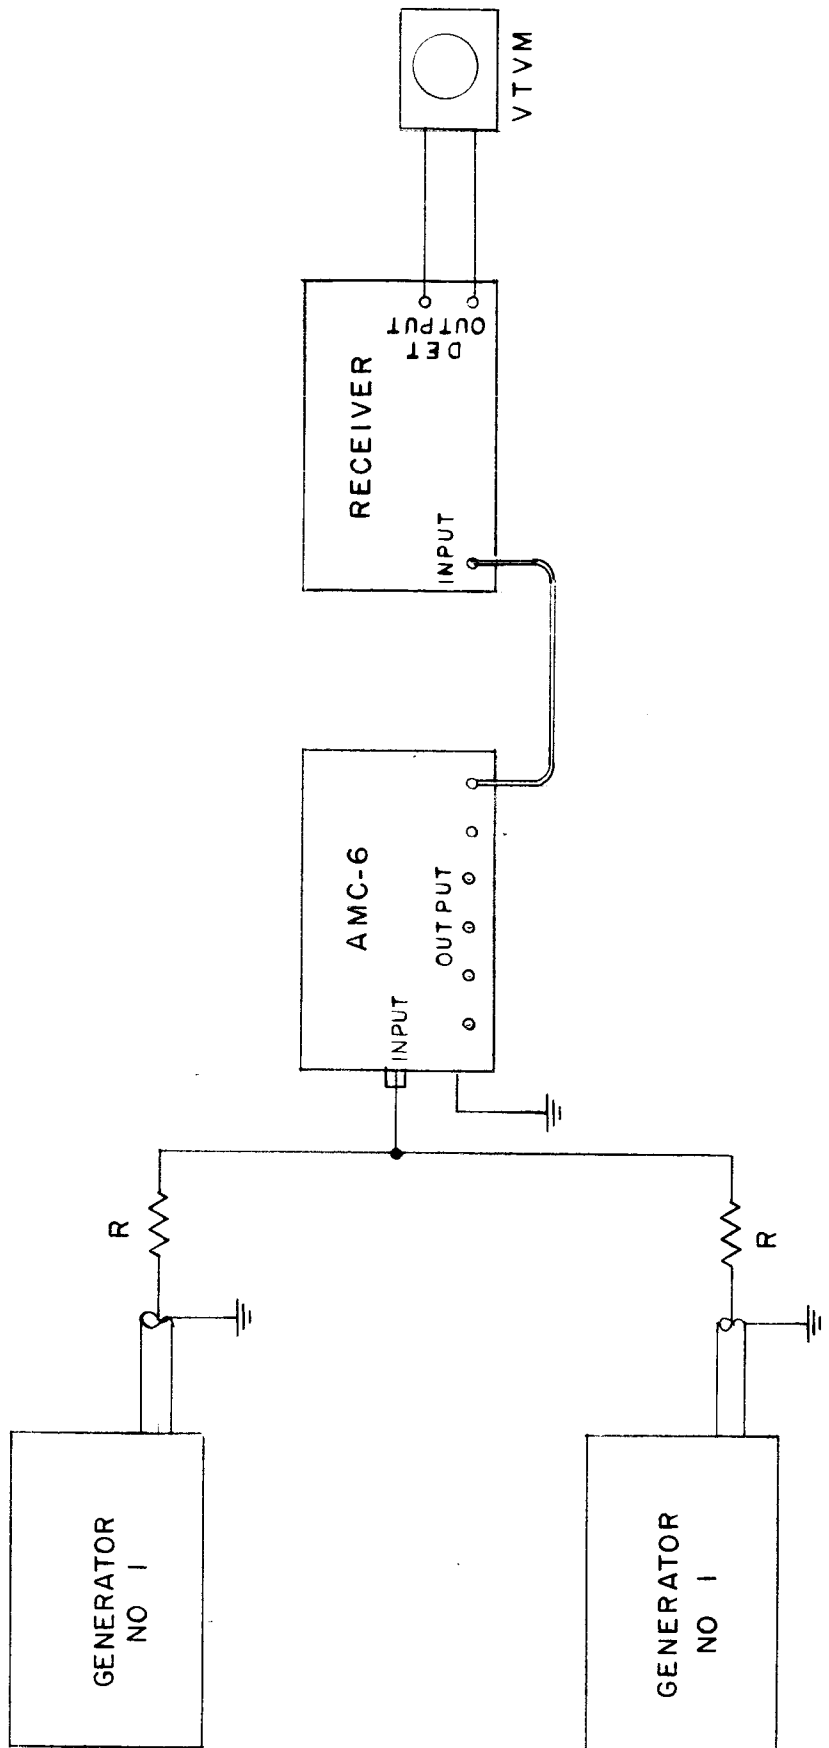

Fig 1
2. Equipment should be set-up as indicated in Fig 1.